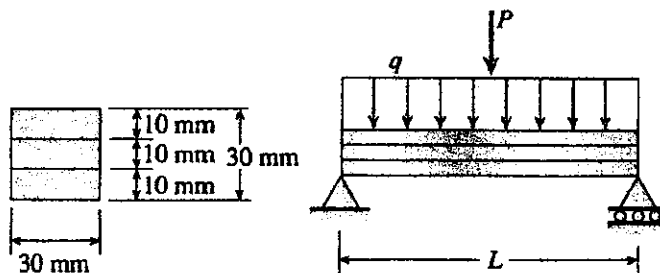

Figure 2
2. (25%) A laminated plastic beam of square cross section is built up by gluing together three strips, each 10 mm×30 mm in cross section (Figure 2). The beam has a total weight of 3.2 N (distributed as q) and is simply supported with span length $L = 320$ mm.